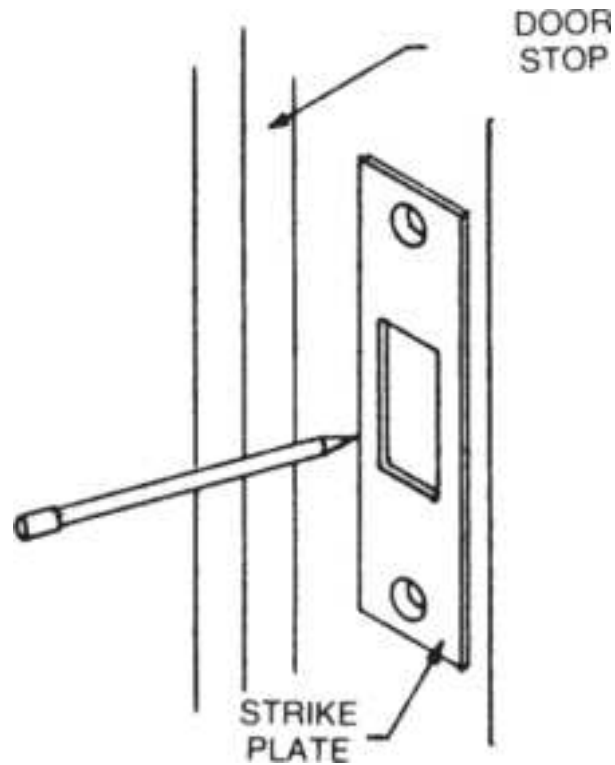

**Figure 13.49** Mark strike plate. (*M.A.G. Engineering and Mfg., Inc.*.)
3. Mark the center hole required to be drilled; also mark around the strike plate edge (Fig. 13.49 ).